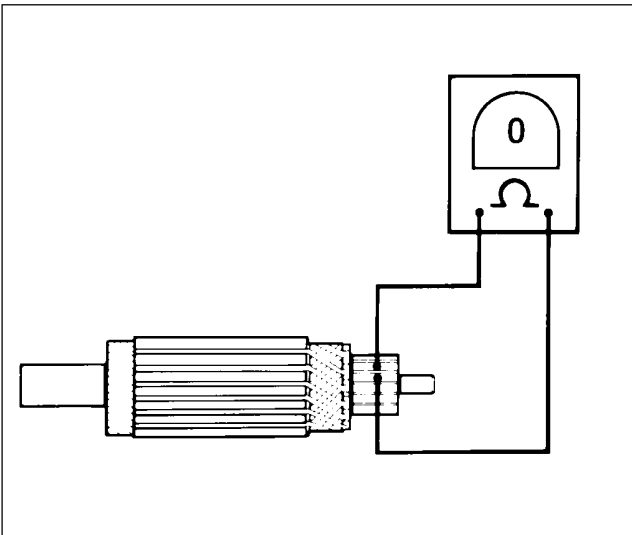

Figure 5-13. Armature Open Test
12. See Figure 5-13. Check for OPEN ARMATURE with an ohmmeter or continuity tester. Check for continuity between all commutator segments. There should be continuity (0 ohms) at all test points. No continuity at any test point indicates armature is open and should be replaced.